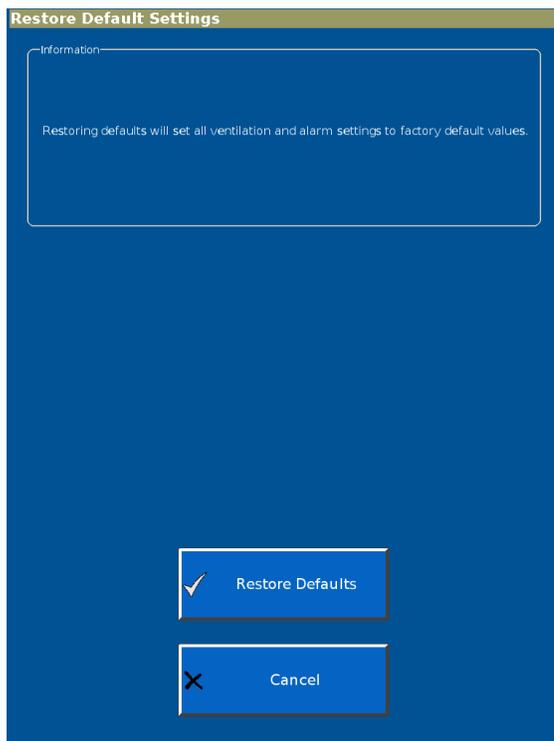

Figure E-7: Restore Default Settings screen
1. From the System Settings screen, select Restore Default Settings to display the Restore Default Settings screen (Figure E-7).